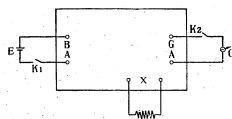

FIG 4
- (1) Connect as shown in Fig. 4.
- (2) For keys and gal. same as in A (1)
- (3) For external battery connection